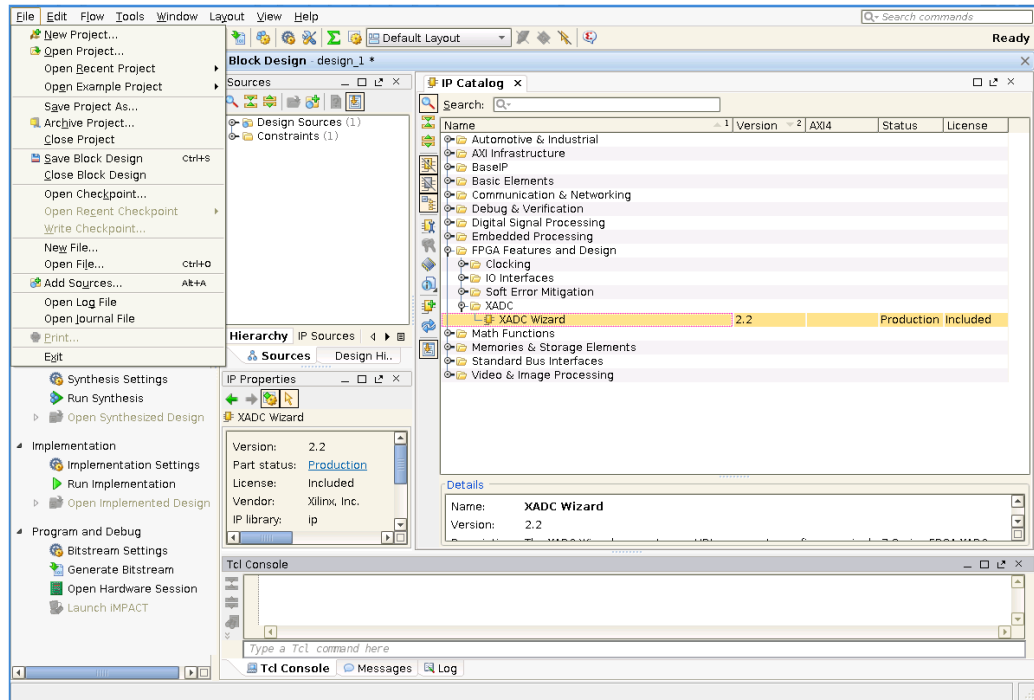

Figure 3-1: New Project
3. Choose **File > New Project** (Figure 3-1).
/FPGA Features and Design/XADC. (See Figure 3-1)